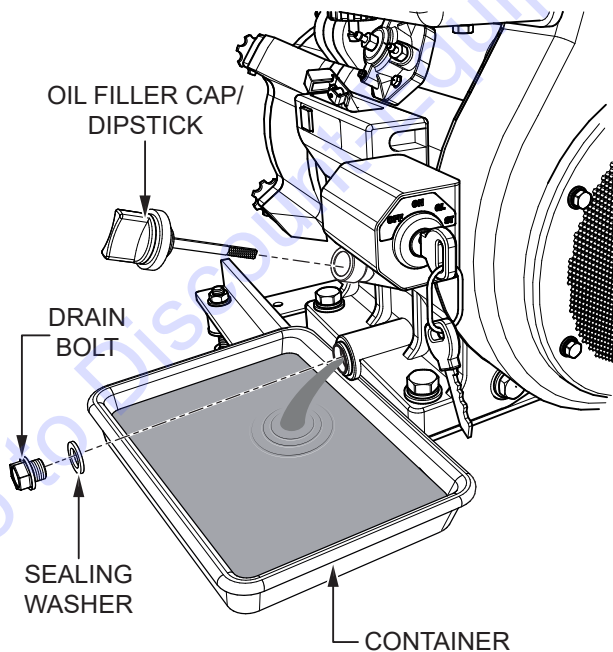

Figure 12. Engine Oil Replacement
1. Remove the oil filler cap/dipstick (Figure 12) and set it aside.
2. Remove the oil drain bolt and sealing washer and allow the oil to drain into a suitable container (Figure 12).